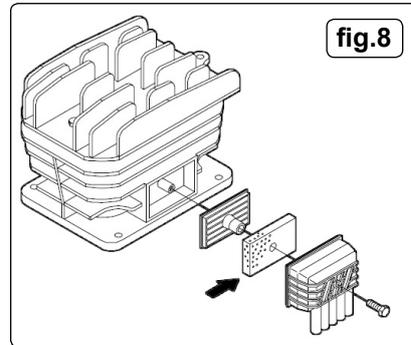

fig.8
- a) Remove the air filter element (fig.8). Using stored air from the compressor's tank, clean the filter with compressed air. (Wear eye protection and **DO NOT** direct air towards the body or hands). **DO NOT** operate the compressor without the filter as foreign bodies or dust could seriously damage the pump. Replace the filter element and air filter housing.
- b) Replace air filter. (fig.8)